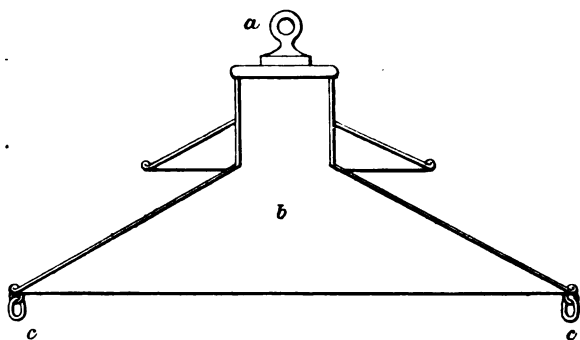

Fig. 64.—Cargo Lantern Reflector.
*Cargo Lantern.*—Fig. 64 represents the kind of reflector found most generally useful for cargo lanterns. It is made usually in white-enamelled iron, but in many cases is merely painted within. There